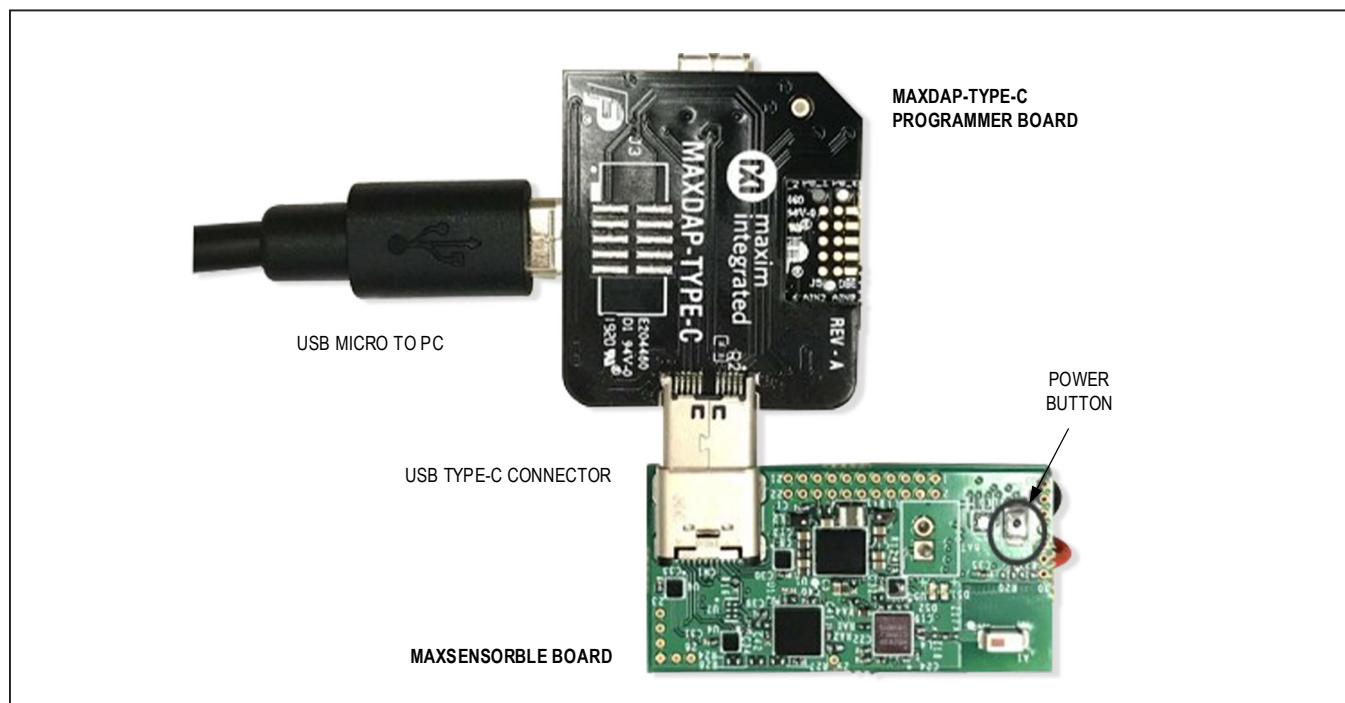

Figure 17. Connections to flash firmware on MAXSENSORBLE_EVKIT_B board.
- 1) See Figure 17 for the following step. Power down the MAXSENSORBLE_EVKIT_B board. Connect the MAXSENSORBLE_EVKIT_B board to the MAXDAP-TYPE-C programmer board. Ensure that the label "MAXDAP-TYPE-C" is on the same side as the top of the MAXSENSORBLE_EVKIT_B board, as Type USB-C direction matters. Connect the micro USB-B to USB-A cable to your PC via HDK USB port on the MAXDAP-TYPE-C board. After the cable is connected to your PC, the MAXSENSORBLE_EVKIT_B board will power up and have red & yellow status indicator LEDs on. Do not press the power button at this time!.